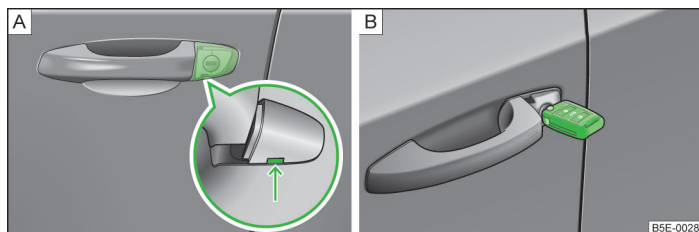

Fig. 201 Handle on the driver's door: covered locking cylinder/locking cylinder with key
- Push the vehicle key into the recess on the bottom side of the cover in the region of the arrow and fold it upwards » Fig. 201 - [A].
- Insert the vehicle key (the buttons facing upward) into the locking cylinder and lock/unlock the vehicle » Fig. 201 - [B].